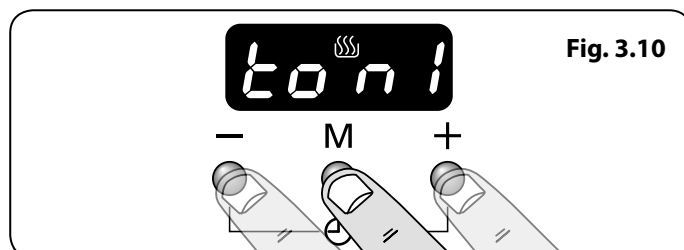

Fig. 3.10
1. Press the the [+] and [-] buttons simultaneously, then the mode [M] button. The display will show 'ton1,2 or 3' (**Fig. 3.10**).